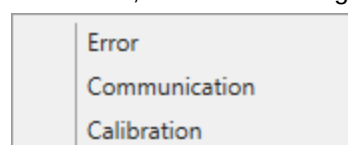

Figure 13. Tools Menu – Open Logfile
- Open Logfile: the available Error, Communication, or Calibration log files can be opened (Figure 13).